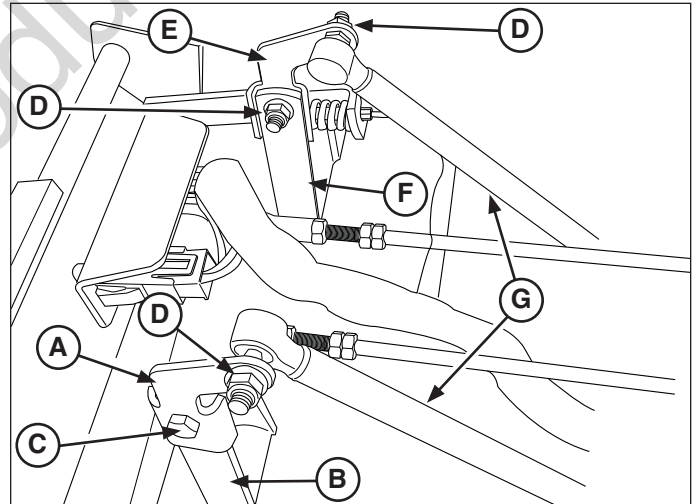

Figure 2. New Dampener Tabs Installed
4. See **Figure 2**. Mount the left motion control tab (**A**, **Figure 2**) onto the left side of the left motion control arm (**B**) so that the tab is pointing towards the rear of the machine and secure using a 5/16-18 X 1" bolt (**C**) and 5/16-18 nylock flange nut (**D**).
5. See **Figure 2**. Mount the right motion control tab (**E**) onto the right side of the right motion control arm (**F**) so that the tab is pointing towards the rear of the machine and secure using a 5/16-18 X 1" bolt and 5/16-18 nylock flange nut.
6. Install the dampener controls (**G**) to the motion control tabs and secure using 5/16-18 nylock flange nuts as shown in **figure 2**.